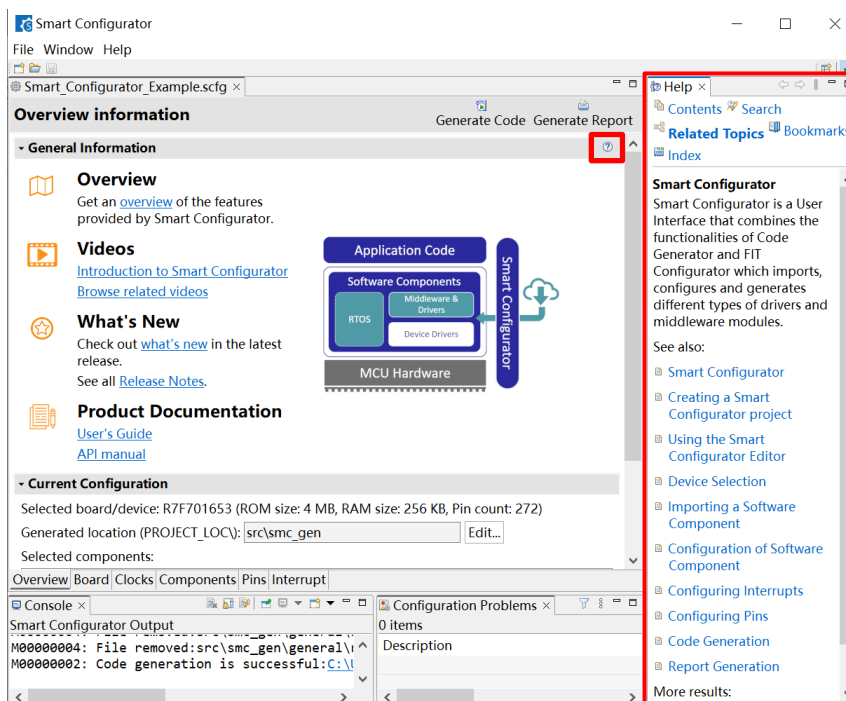

Figure 11-2 Quick Start
11 Help	Figure 11-2 Quick Start updated.
3.4 Window 9.1 Report on Configuration 11. Help	Update: Figure 3-5 Main Window Figure 3-6 Smart Configurator View Figure 9-1 Output of a Report on the Configuration Figure 11-2 Quick Start